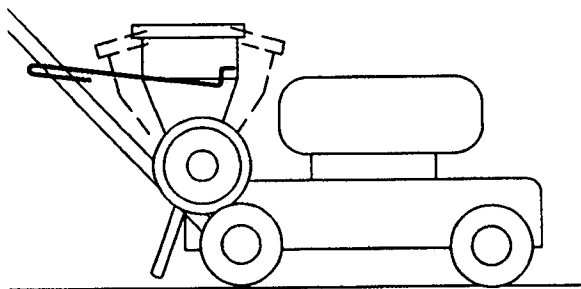

Figure 100
- 8.** Adjust the hopper so it is level and tighten the handle knob securely to lock the hopper in place (Fig. 100).